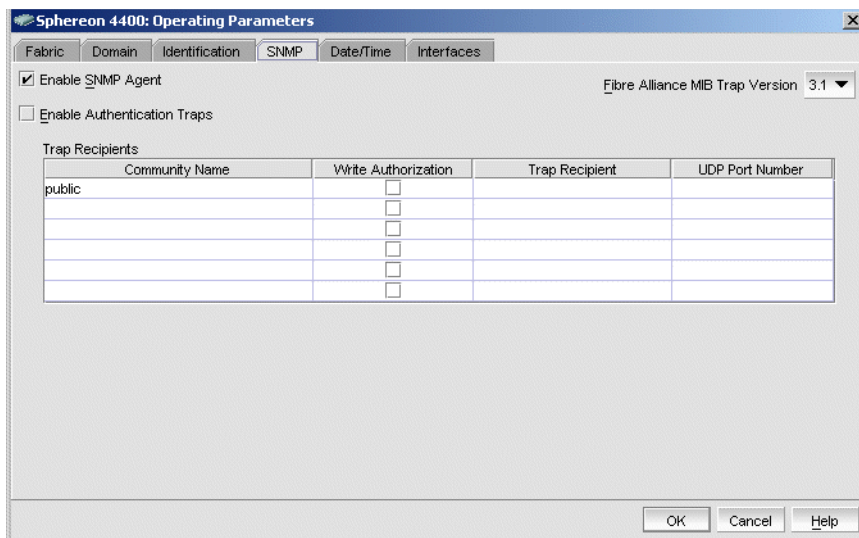

Figure 2-32 Configure SNMP Dialog Box
1. Select the *SNMP* tab (Figure 2-32).